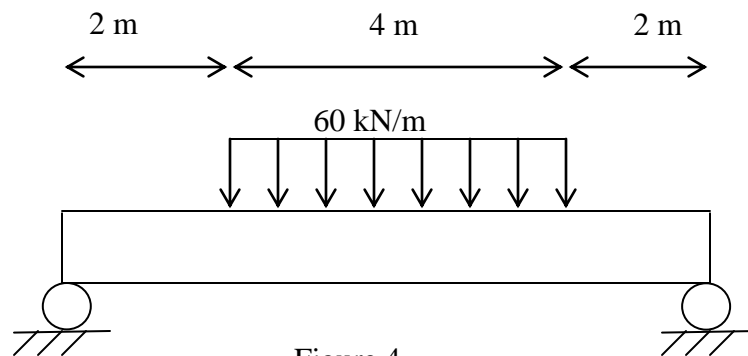

Figure 4
4. A beam is loaded as shown in Figure 4. Determine the maximum deflection of the beam